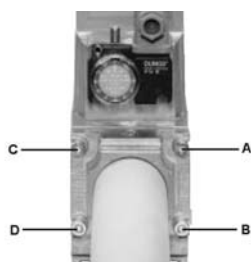

Fig. 11
1. Loosen screws A and B **do not** unscrew (Fig. 11 - Fig. 12).
2. unscrew screws C and D (Fig. 11 - Fig. 12).